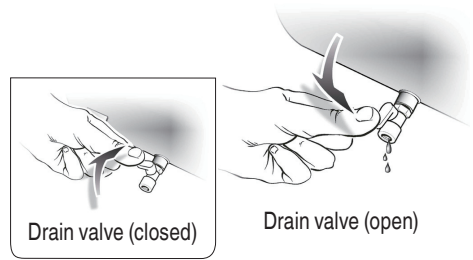

Fig. 12
### **To drain the tank: (Fig. 12)**
- Open the drain valve located at the lower part of the tank (Fig. 12). Tank pressure should be below 10 psi when draining the tank.